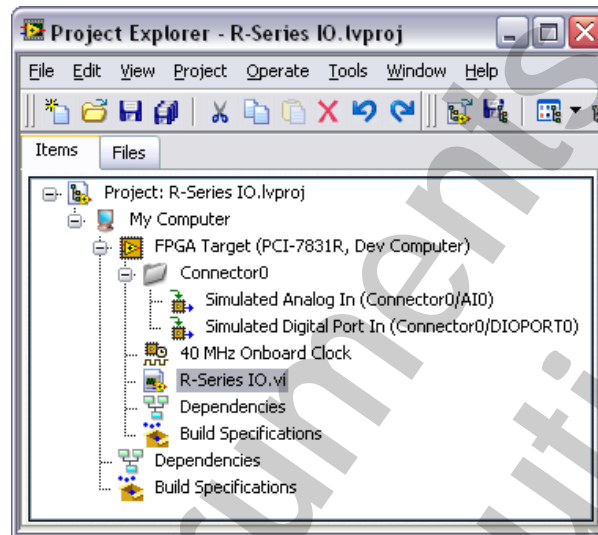

Figure 4-1. R Series Project with FPGA I/O
6. Verify that your Project Explorer window resembles Figure 4-1.